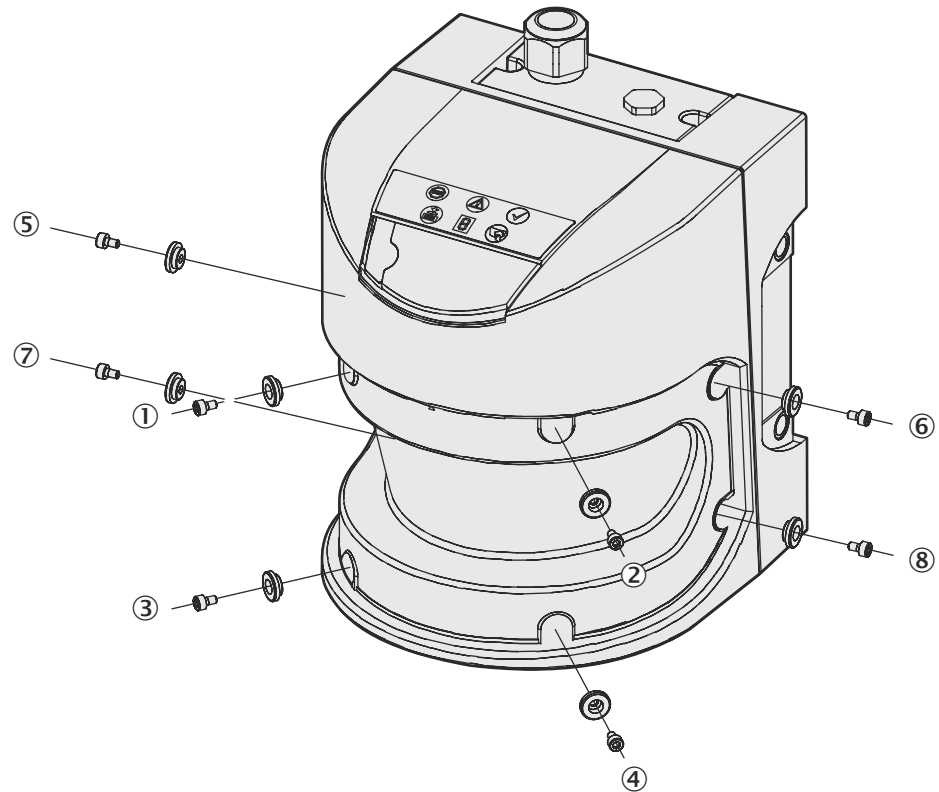

Figure 67: Remove the fixing screws of the front screen
15. Place the front screen on the rubber seal and insert the new fixing screws ① to ④ with distance bushes (see figure 67).
16. Press the front screen on the front of the cover. During this process tighten the front screws ① to ④ to the tightening torque set.
17. Now insert the rest of the screws ⑤ to ⑧ with distance bushes (see figure 67) and tighten using the torque wrench.